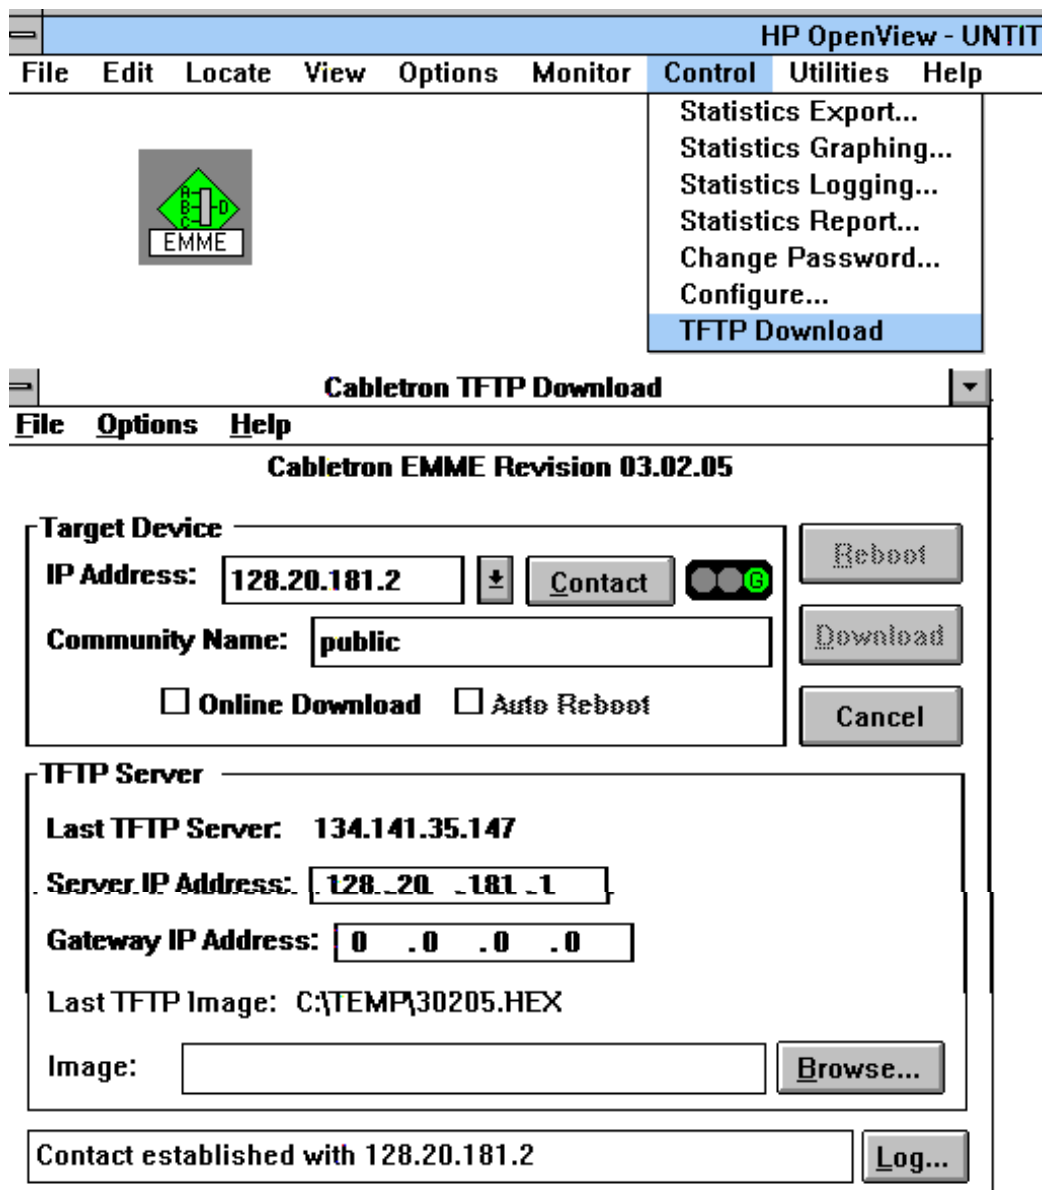

Figure 3-5. Control Pulldown Menu and TFTP Download Screen
1. While highlighting the device icon to which you are going to download, pull down the **Control** menu and highlight TFTP Download. The TFTP Download screen displays (Figure 3-5).